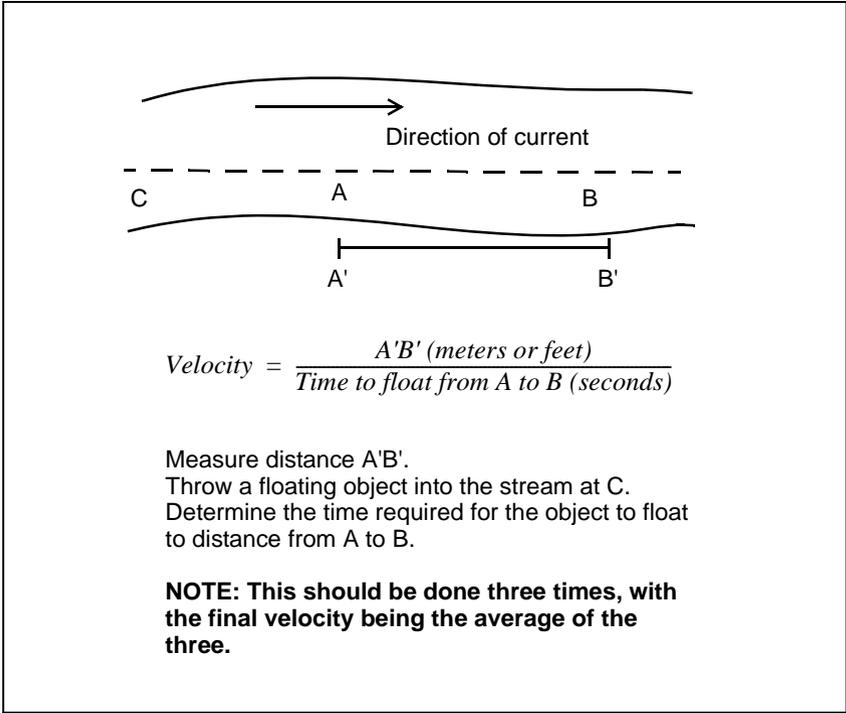

Figure I-9. Determine Stream Velocity
- Use the average time of the test in the following formula (*Figure I-9, page I-24*) to determine the stream's velocity.